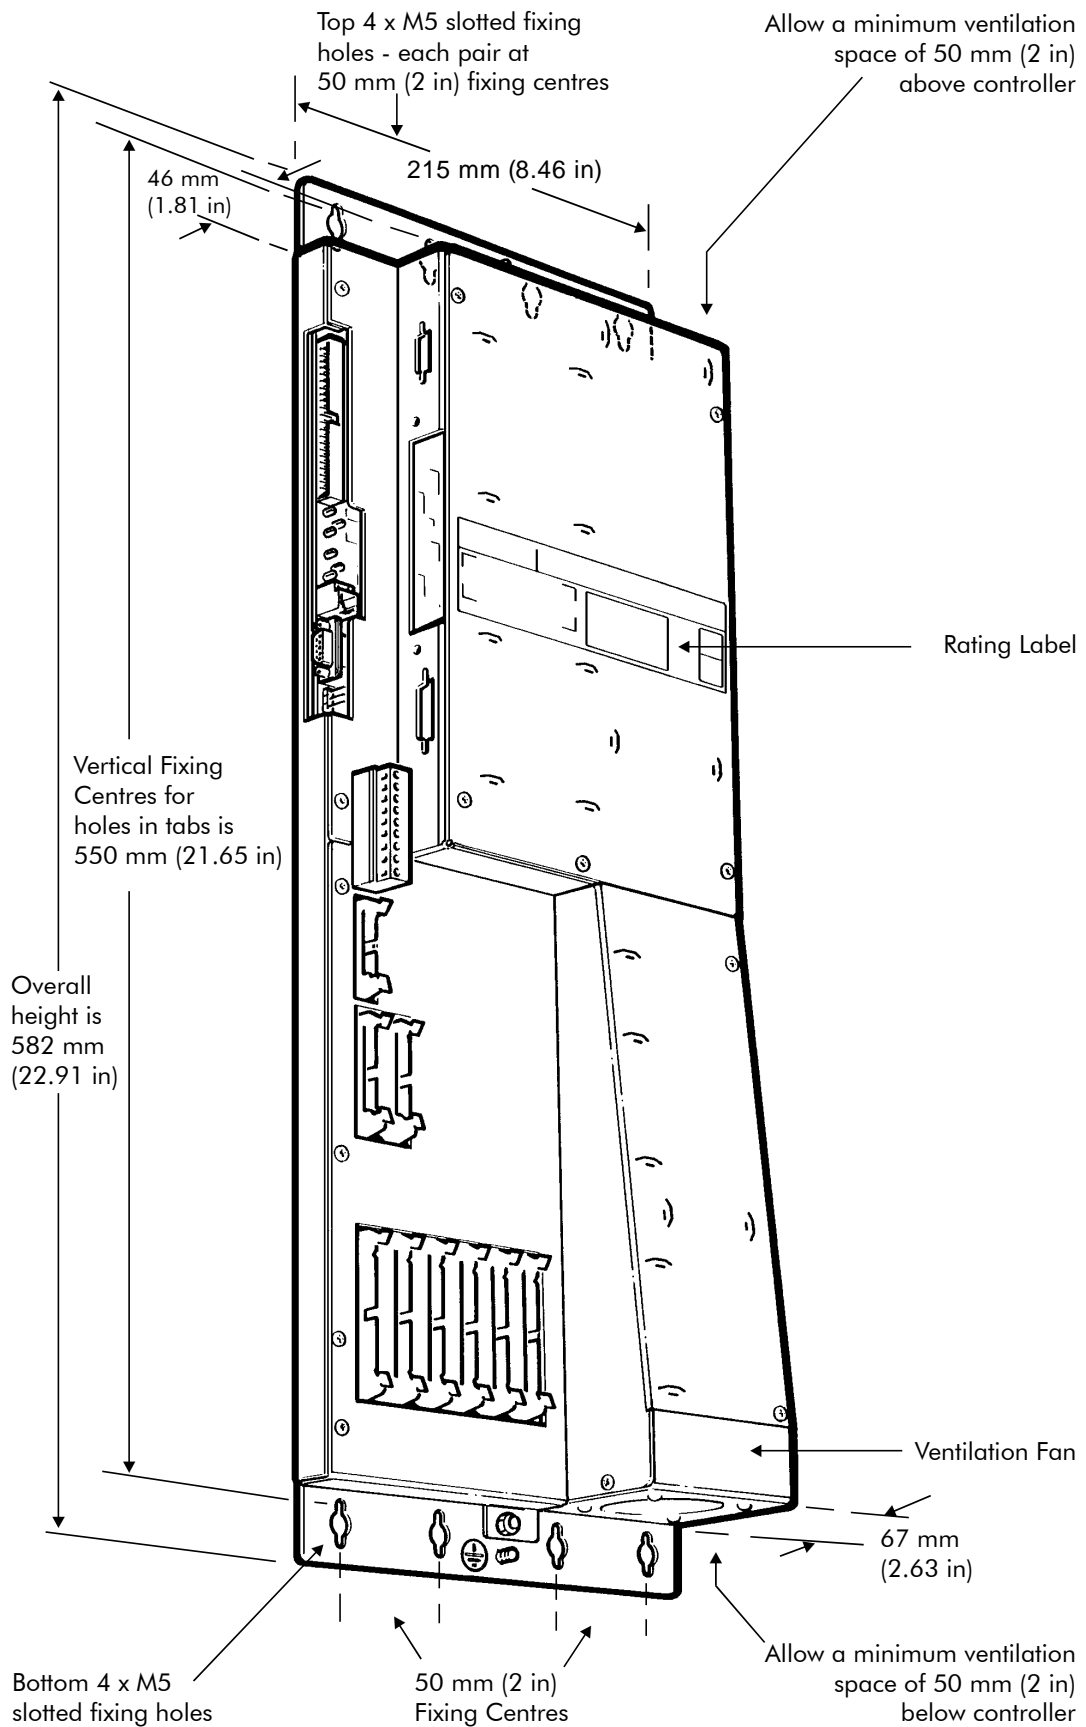

Figure 5-11 MVM3000e Controller – Mechanical Details
The MV3000e Controller, shown at Figure 5-11, can be mounted at various locations in a Cubicle. The recommended position is on the left hand side panel, when viewed from the front. Cubicle Planning details, which include the requirements determining the position of a controller in a cubicle, are included at Section 4 - CUBICLE PLANNING. Wherever it is mounted there are certain requirements which are applicable to the location as follows:
- (c) mount the controller with four M5 Taptite screws to the fixing dimensions at Figure 5-11 and torque setting as detailed in Appendix B - the orientation of the controller will depend upon the mounting position within the cubicle.
Note: Figure 5-11 does not identify electrical connections, or diagnostic LED functions, which are shown at Figure 6-8.